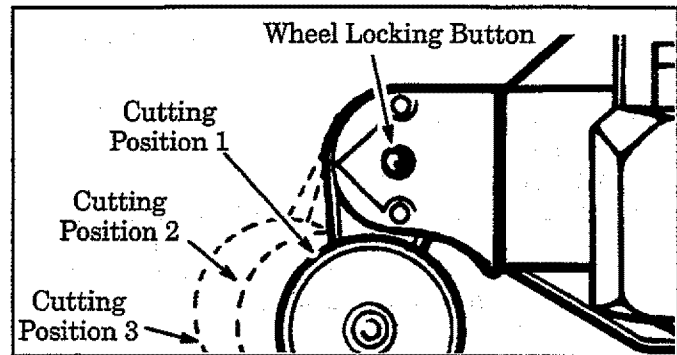

Figure 6
To set edging/trenching depth, do the following: Press wheel locking button and pivot the wheel to the desired position. Figure 6. Release the wheel locking button, making sure the wheel is in the locked position.
2. If the area to be edged has never been cut or several weeks have passed since the last cut, then use the cutting position 1. Figure 6.